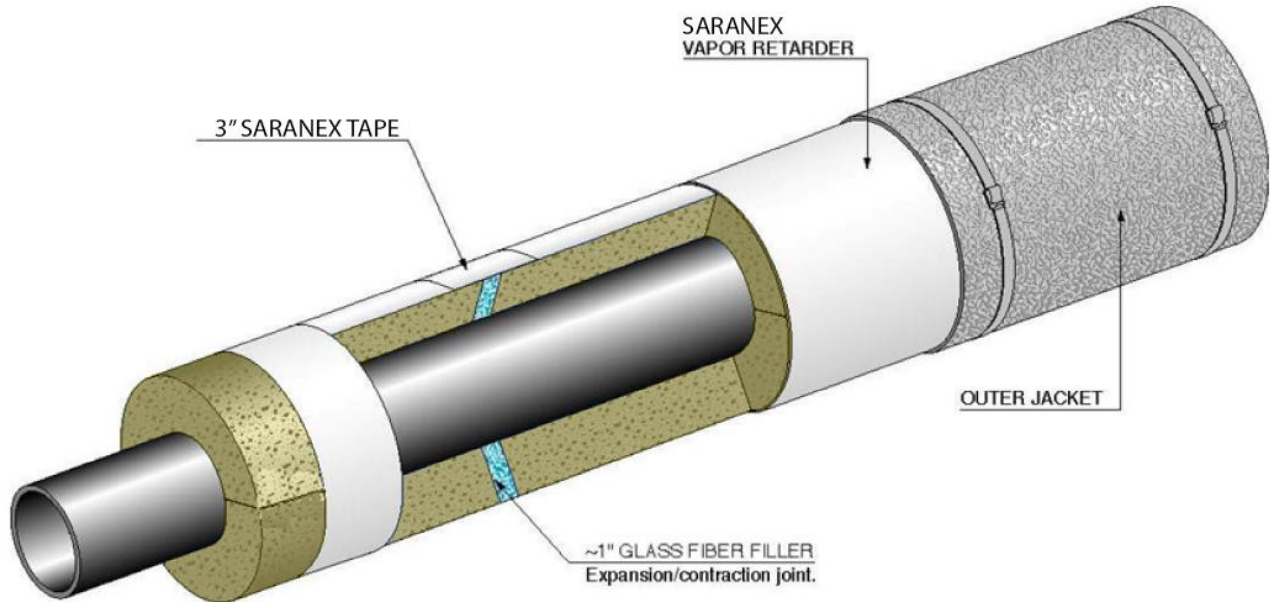

FIGURE 5
- 4.1.9 Expansion joints constructed of loose fill glass fiber insulation shall be installed in the piping insulation system where necessary. See figure 5 in Appendix B. The appropriate designer or engineer must specify the spacing of expansion joints separately for each system. Recommended expansion/contraction joint spacing is shown in table 1 in Appendix B.